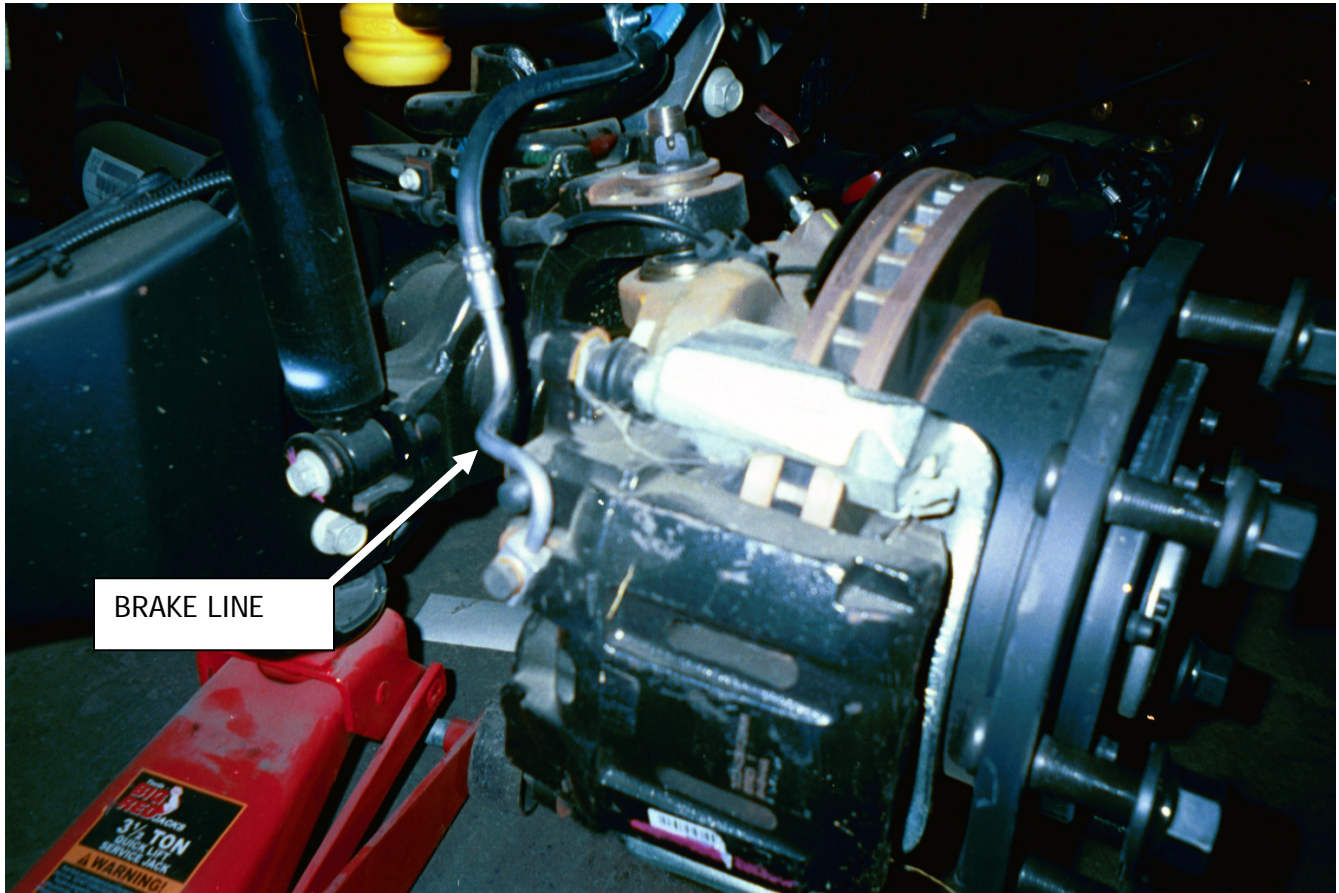
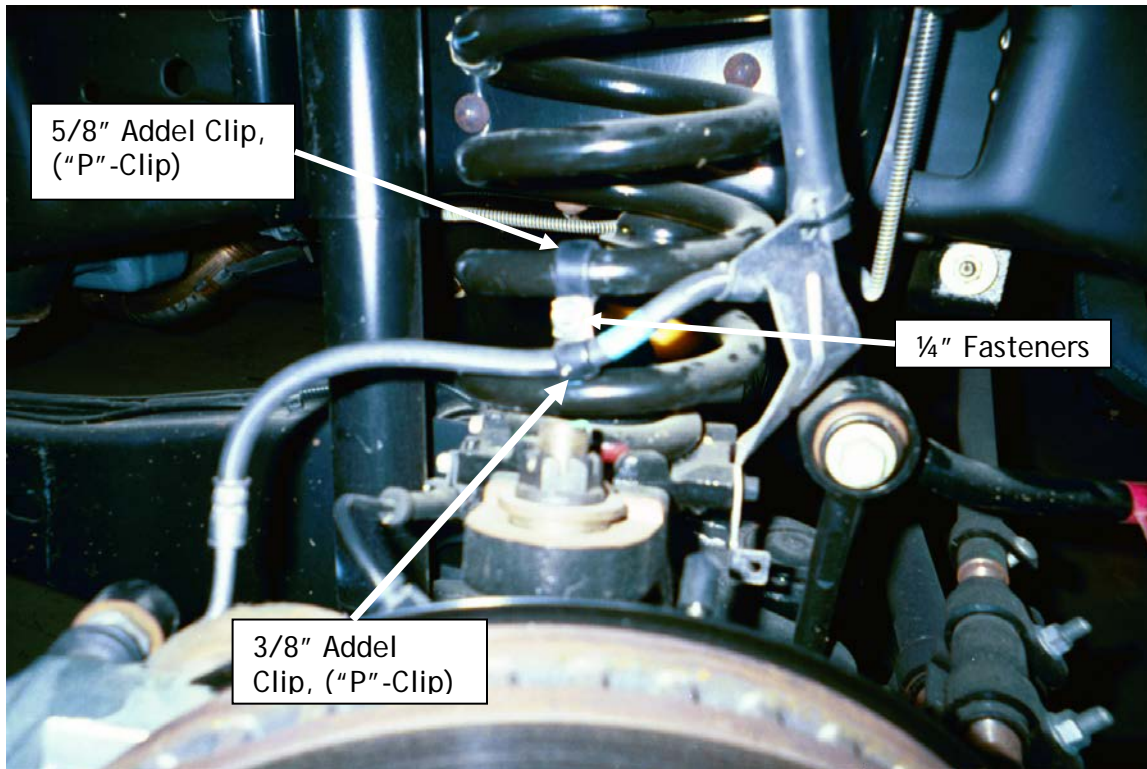

Figure 1: Brake line after 10 to 15 Degree inward bending adjustment.
Figure 2: Addel clip (P-clip) location and orientation.
10. The front brake lines can be tied back using the supplied hardware as follows: (Refer to Figure 1, Figure 2, and Figure 3).
- a. Using a tube bender, bend the brake line at the brake calliper maximum of 15 degrees away from the wheel, (Figure 1).
- b. Secure 5/8" P-Clip to coil spring as shown on (Figure 2). Be certain that clip is oriented as shown on Figure 3.
- c. Secure 3/8" P-Clip to brake line as shown on (Figure 2). Be certain that clip is oriented as shown on (Figure 3).